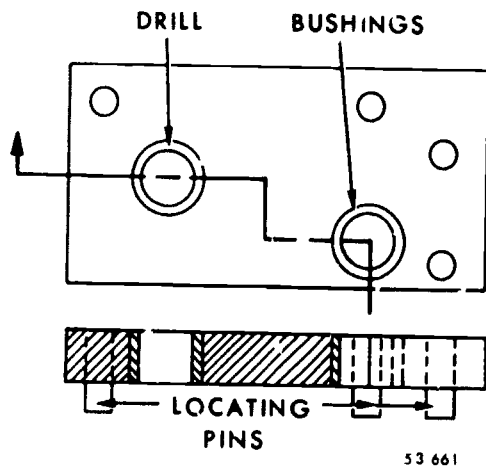

Figure 1-7 Plate jig
**Plate.** The plate jig, shown in figure 1-7, gets its name from the fact that the largest part of it is a plate. The other essential parts are locating pins, drill bushings, and a clamping device. A jig of this kind can be used for drilling holes in a flat workpiece.